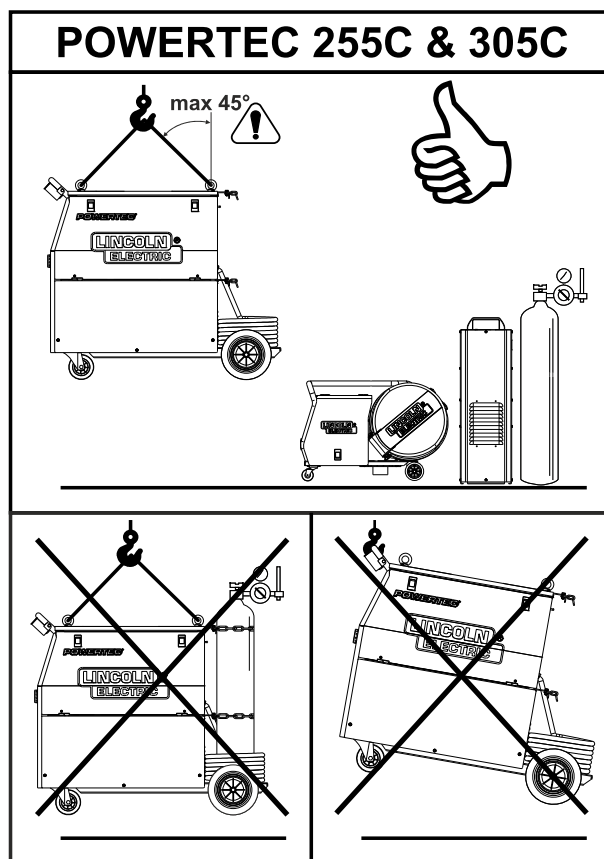

Figure 21.
To safely transport and lift POWERTEC® 255C & 305C (see the Figure 21):
- Screw down an eye bolt and apply load axially in 45 degree angle in accordance to the Figure 21.